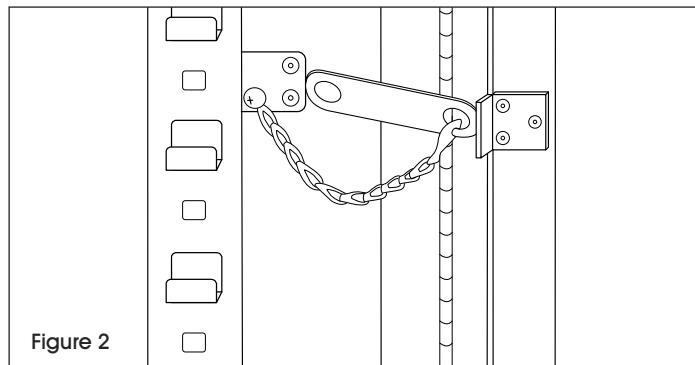

Figure 2
2. To hold doors open, prop link between brackets. (See Figure 2)